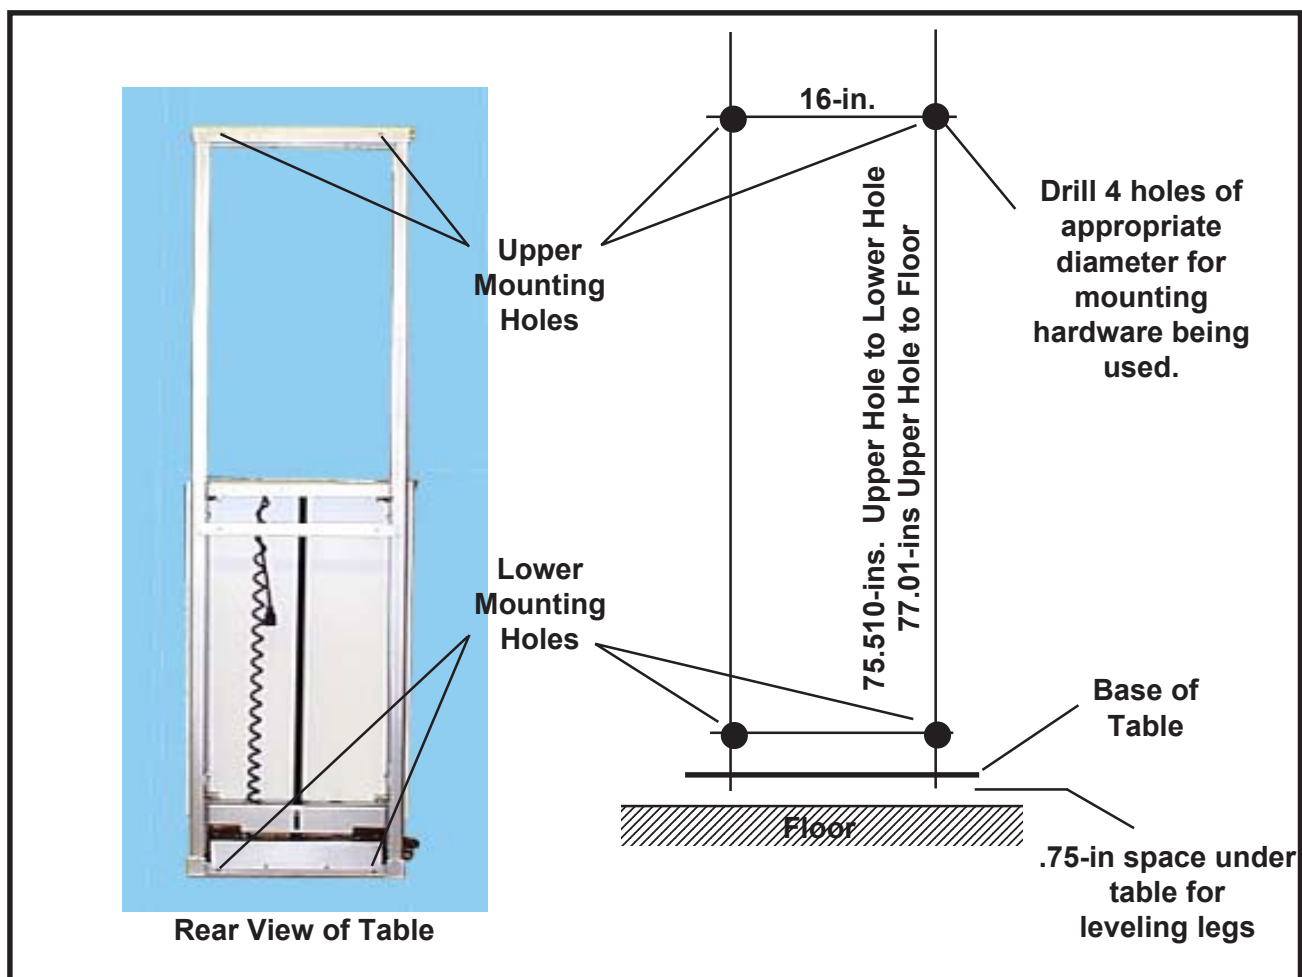

Figure 13. Wall-Mount Holes and Dimensions
3. Refer to Figure 13 and drill the four mounting holes suitable for the type of fastener you will be using.